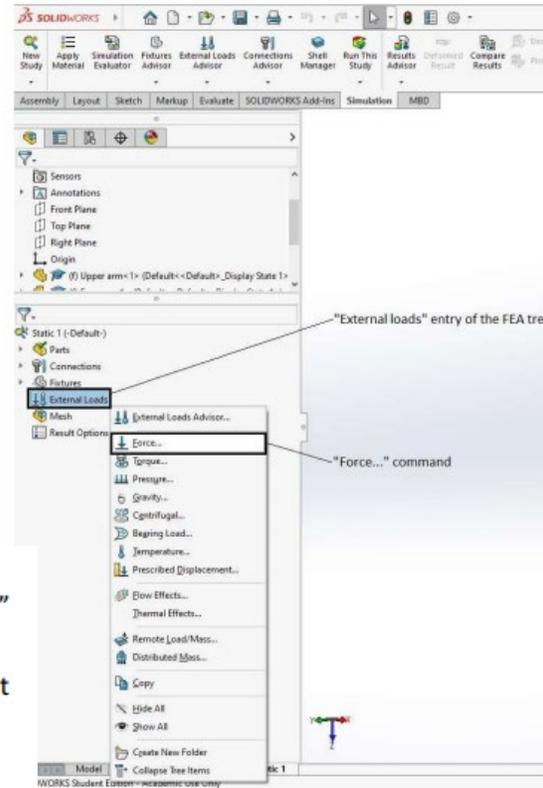
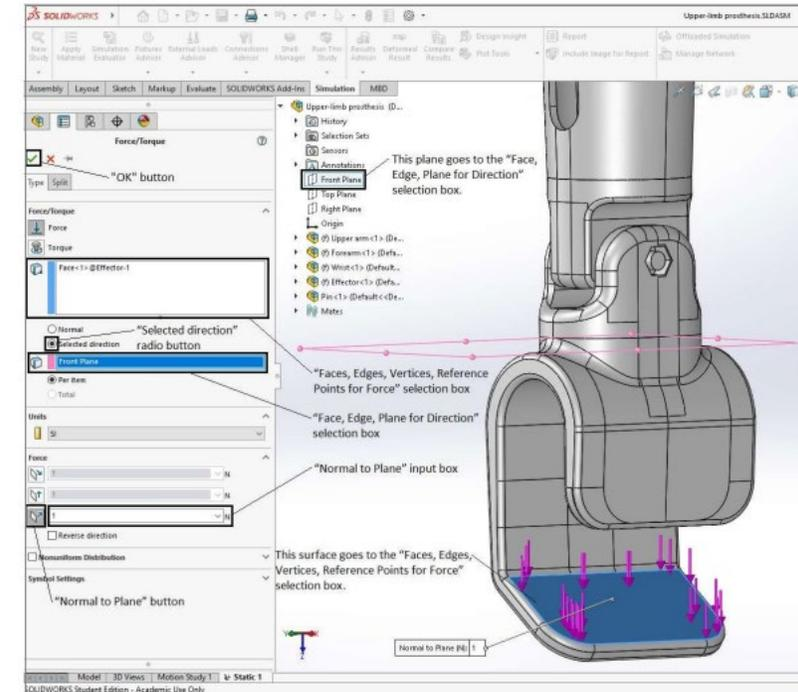

Figure 22: Defining a force-type boundary condition
Figure 23: Defining the distal traction load that acts on the prosthesis
i) Press the right button of the mouse on the “External Loads” entry of the FEA tree and select the “Force...” command in the drop-down menu (Fig. 22). Perform the following actions in the “Force/Torque” dialogue box to define the distal traction load that acts on the prosthesis (Fig. 23):